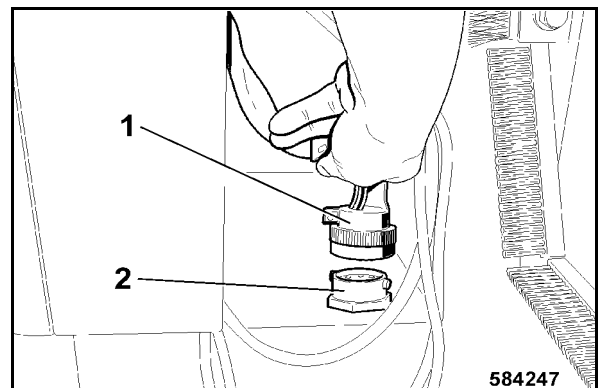

Fig. 229
- Insert the plug 1 (Fig. 229) into the socket (2).